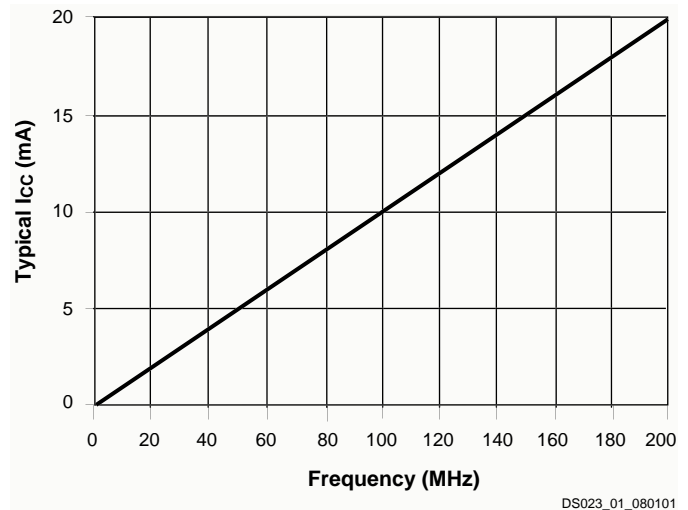

Figure 1: I_{CC} vs. Frequency at $V_{CC} = 3.3V$, 25°C
Xilinx offers a TotalCMOS CPLD, both in process technology and design technique. Xilinx employs a cascade of CMOS gates to implement its sum of products instead of the traditional sense amp approach. This CMOS gate implementation allows Xilinx to offer CPLDs that are both high performance and low power, breaking the paradigm that to have low power, you must have low performance. Refer to Figure 1 and Table 1 showing the I_{CC} vs. Frequency of our XCR3032XL TotalCMOS CPLD (data taken with two resettable up/down, 16-bit counters at 3.3V, 25°C).
5. See Table 1, Figure 1 for typical values.